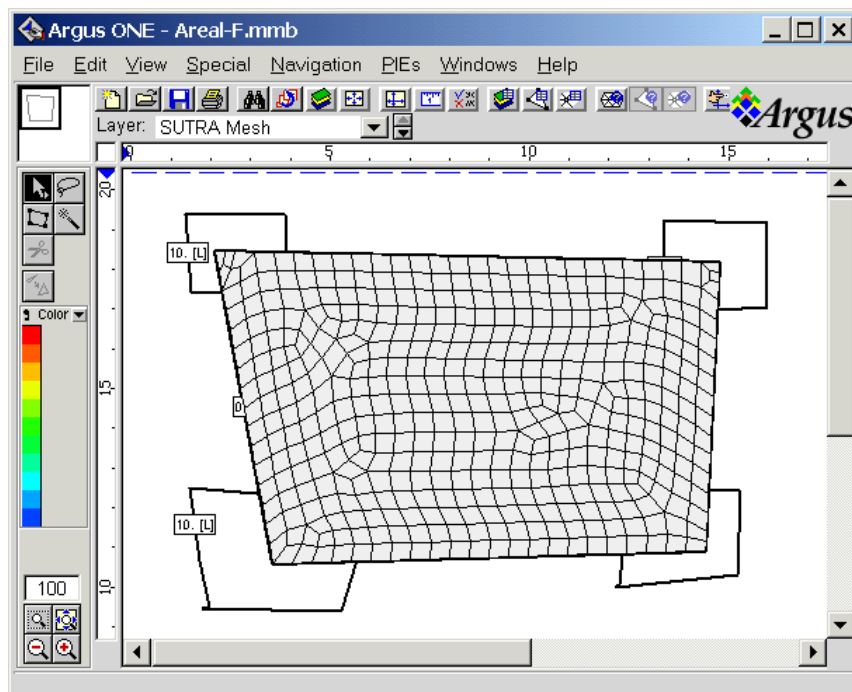

Figure 22. SUTRA mesh in areal ground-water-flow step-by-step example.
14. Click on the ‘magic wand’  and then click the magic-wand cursor inside the model boundary just drawn. An irregular finite-element mesh containing elements with a size of about 0.5 is generated and displayed. Figure 22 shows the type of mesh that may be expected.
16. Save the project so far by selecting *File|Save As...* menu item. Select the desired directory and type in the desired name (for example, “Areal-F” for areal flow model) and then click on Save. A project file called Areal-F.mmb is created in the directory chosen by the user, and the window name becomes the same, as shown in figure 22.